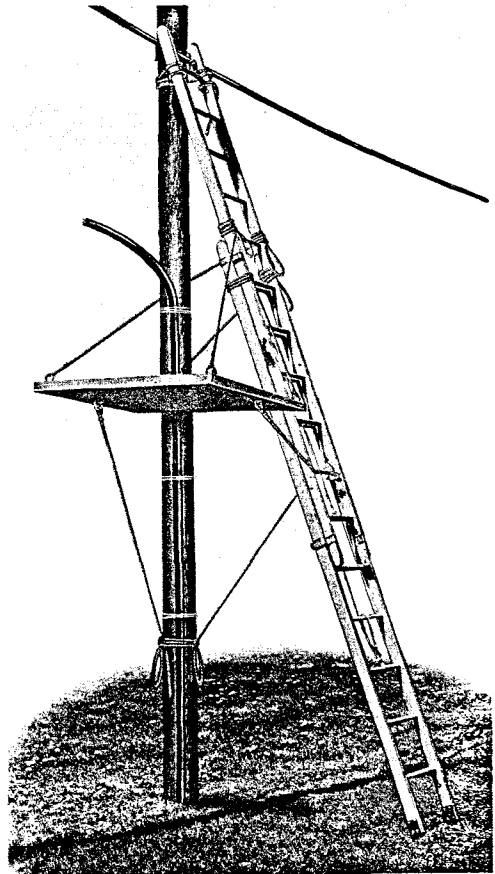

Fig. 18—Platform Placed Without Attachment To Strand
- 4.07** Use the following method when placing the platform without attaching to strand. (See Fig. 18.)
(d) Arrange the support ropes and handline in the manner shown in Fig. 18. Position the platform so the handline will be between the pole and the platform while the platform is being raised. Raise the platform with the handline until the bottom edge of the platform is at the proposed level. Lock the handline to support the platform in this position.